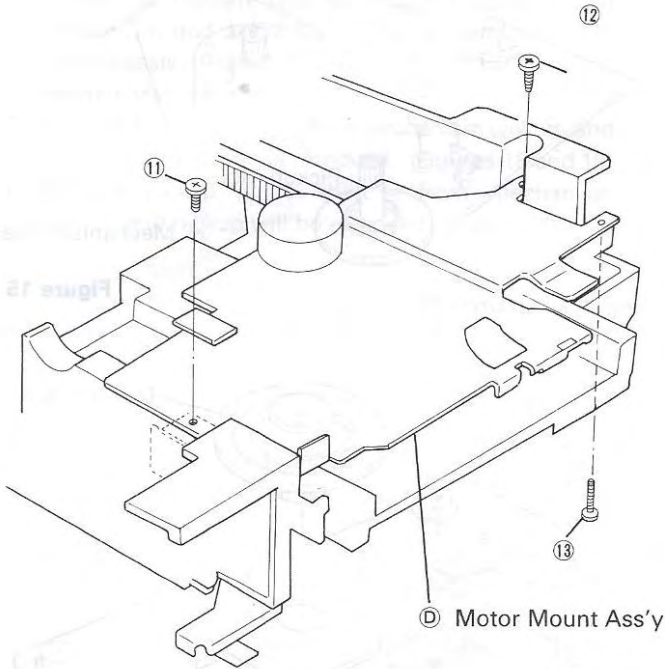

Figure 12
1. Remove three screws ⑪, ⑫ and ⑬ from motor mount assembly ①. (Figure 12)